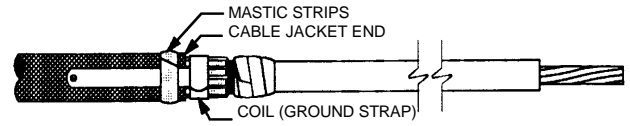

Figure 4
- b. Wrap 1 piece under grounding strap and as close as possible to cable jacket end. Stretch mastic to maintain low profile. Push strap into mastic and wrap second piece over ground strap (Figure 4).